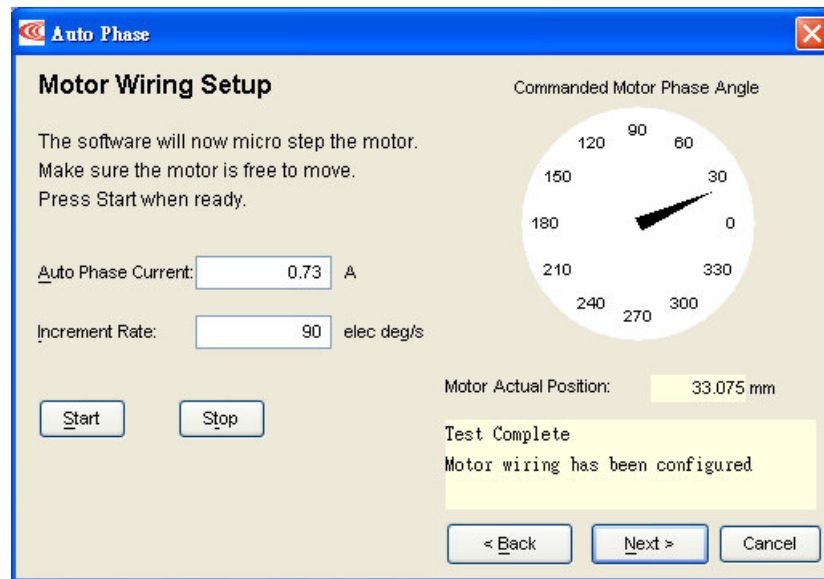

Fig. 16 Motor Wiring Setup
- d. Press on next and Fig. 16 Motor Wiring Setup page will appear. Press on Start to activate, and driver will start sending current to motor coil. (Motor will start to move back and forth slowly.) If successful, "Motor Wiring has been configured" will appear on the message box.